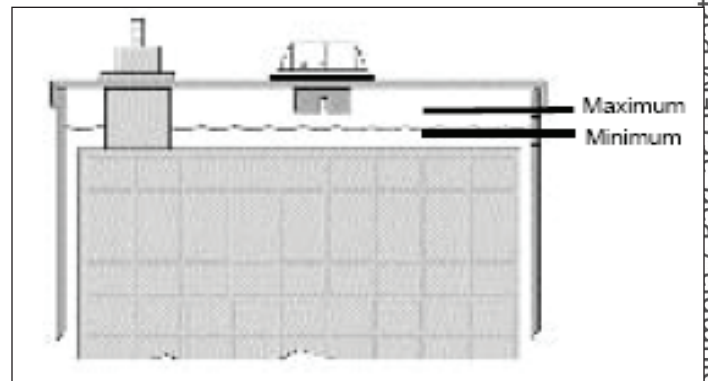

Figure 9-2. Electrolyte Levels
6. Make sure the electrolyte covers the plates before charging. Fill cells to the markers only after batteries are charged. See Figure 9-2.